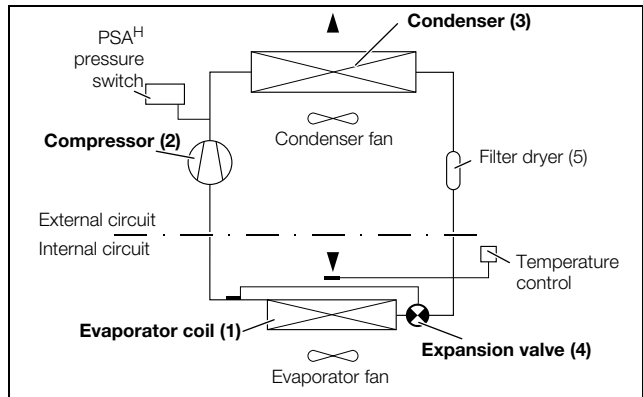

Fig. 2: Cooling circuit
The cooling unit (compression refrigeration system) is comprised of four main components (fig. 2): the evaporator (1), the coolant compressor (2), the condenser (3), and the control or expansion valve (4), which are connected by suitable pipework. This circuit is filled with a readily boiling substance, the refrigerant. Coolant R134a ( $\text{CH}_2\text{FCF}_3$ ) is chlorine-free. Its ozone destruction potential is 0, making it very ecofriendly. A filter dryer (5) which is integrated into the hermetically sealed cooling circuit provides effective protection against moisture, acid, dirt particles, and foreign bodies within the cooling circuit.